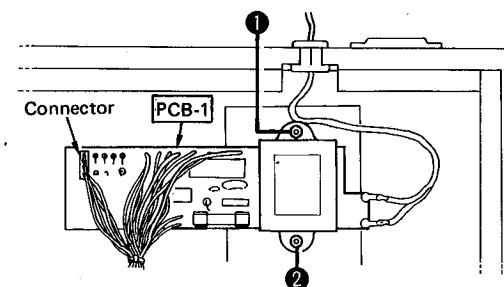

Fig. 3
3. Remove nuts 1 and 2 in Fig. 3 and remove the PCB-1. If necessary, unsolder the leads.